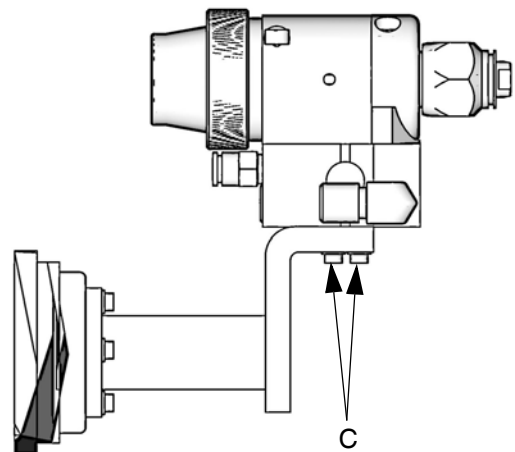

FIG. 4: Stationary Support Mount
To mount the gun on a stationary support (refer to FIG. 4. and **Mounting Hole Layout**, page 34):
3. Install a bleed-type air shutoff valve on the gun air cylinder supply line, downstream from the air regulator, to shut off air to the gun cylinder. Connect the air supply line to the gun cylinder air inlet (C). See Fig. 4.